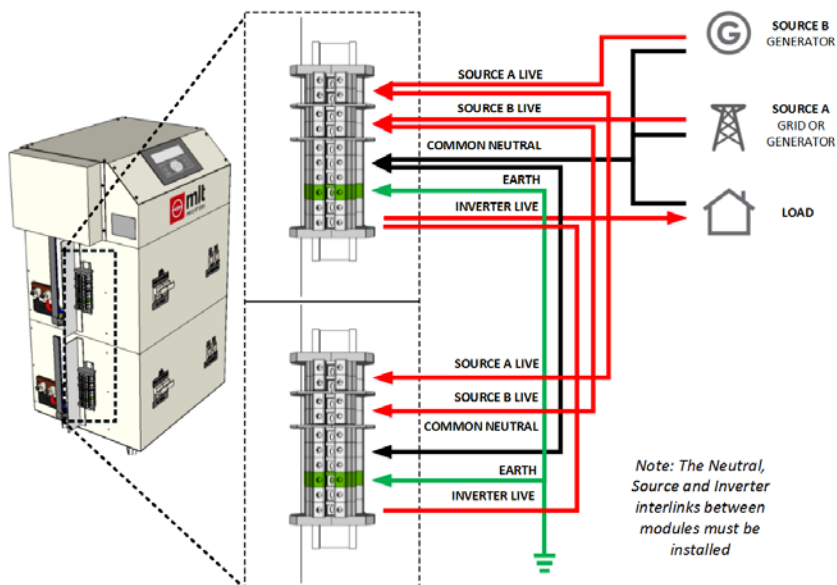

Figure 22: Single Phase AC Input/Output Connections for Multiple Inverter Modules
10. Single phase with multiple inverter modules (see Figure 22). A single phase system can have a maximum of three Inverter Modules connected in parallel. If two inverter modules are installed use the lower module as the input/output module. If three inverter modules are installed use the middle module as the input/output module.